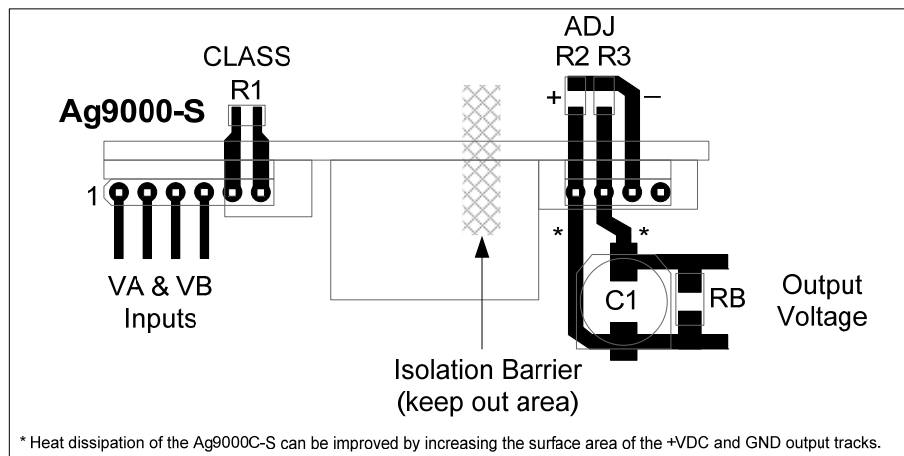

Figure 8: Typical Layout
To meet the safety isolation requirements of IEEE802.3af section 33.4.1 a Powered Device (PD) must pass the electrical strength test of IEC 60950 sub clause 6.2. This calls for either a) 1500VAC test or b) 1500V impulse test. The Ag9000-S is specified to meet the 1500V impulse test. It is also important that the tracks on either side of the isolation barrier have at least a 3mm clearance, see Figures 8 & 9 and Section 11 for more information.
Figure 8: Typical Layout gives an example of the tracking needed for the Ag9000-S. R1, R2 and R3 are optional components, RB is only needed if the minimum output current is <20mA. C1 needs to be positioned close to the output pins of the Ag9000-S as possible to minimise the current loop. The thermal performance of the Ag9000-S can be improved by increasing the surface area of the output tracks (+VDC and GND). This is not applicable if the Ag9000-S is in a socket.